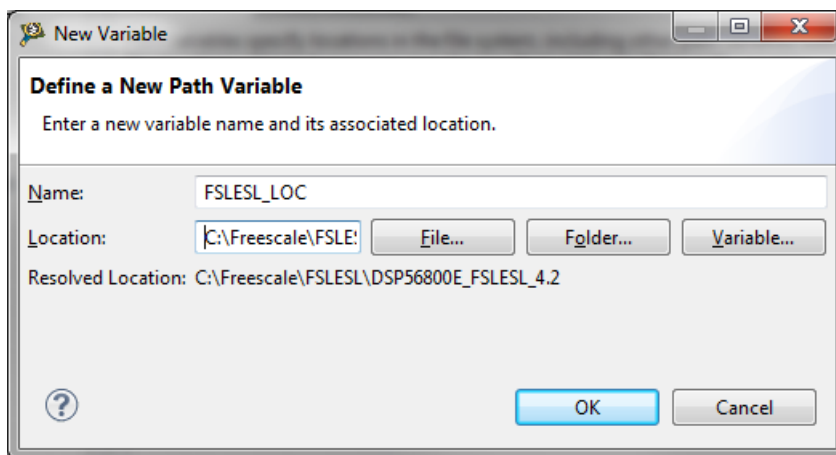

Figure 1-7. New variable
- In the dialog that appears (see Figure 1-7), type this variable name into the Name box: FSLESL_LOC